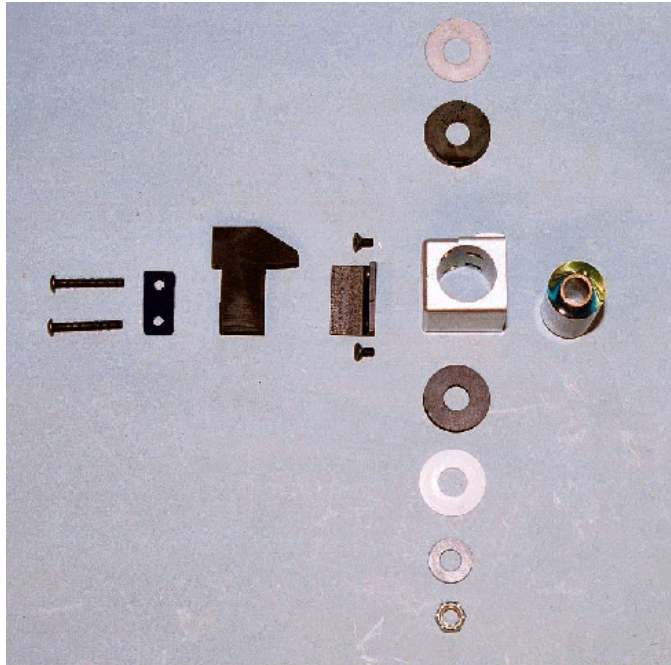

Figure 8.9- Exploded Shoulder Block Assembly
7. **Figure 8.9** shows an exploded view of the shoulder block assemblies. The shoulder block assembly is started by inserting one of the Molded Rubber Sleeve Assemblies (T1SHM003) into the bored hole in the Right Shoulder Block (T1SHM015).